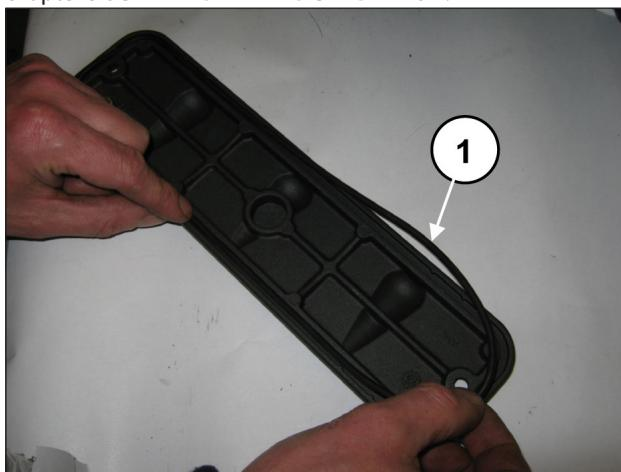
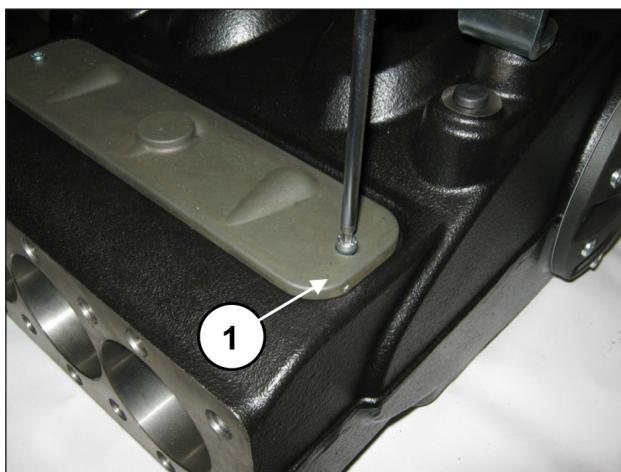

Fig. 91
Fig. 92
Apply O-rings on the inspection covers (pos. ①, Fig. 91) and tighten with 2+2 M6x14 screws (pos. ①, Fig. 92).